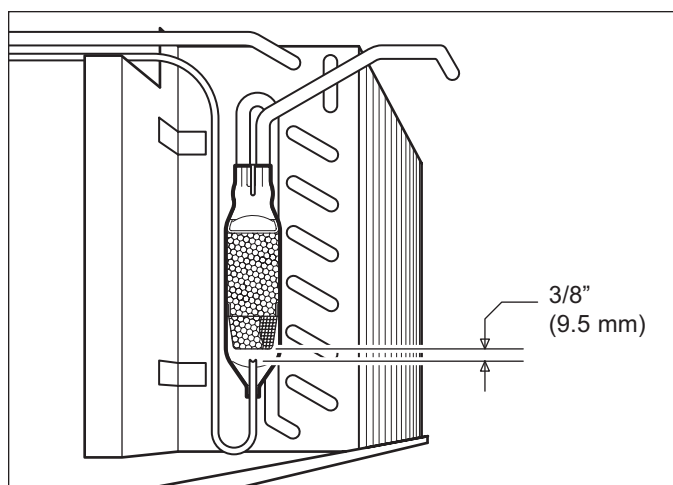

Figure 7-150. Filter-Drier Cut-Away View
**NOTE:** When installing replacement filter-drier, insert capillary tube until it touches screen inside drier, then pull capillary tube away from screen approximately 3/8" (9.5 mm) before brazing (See Figure 7-150).